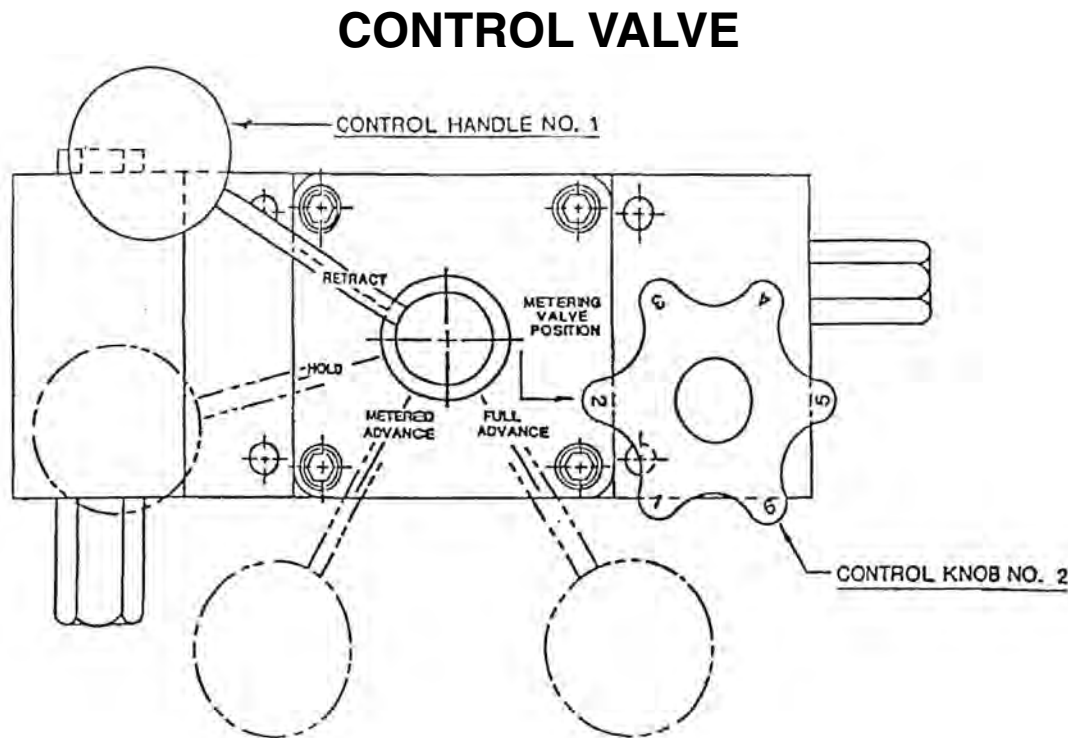

Figure 1
Placing Control Handle No. 1 (see Figure 1) into the metered advance position allows the operator to adjust the rate of loading through the use of Control Knob No. 2. To increase the rate of loading, turn Knob No. 2 counter-clockwise. To decrease the rate of loading, turn Knob No. 2 clockwise. **CAUTION: Do not over-tighten Control Knob No. 2.**
Placing Control Handle No. 1 into the hold position (see Figure 1) stops the loading of the specimen and holds the pressure on the specimen at that point.
6.5 Figure 1: Control Valve